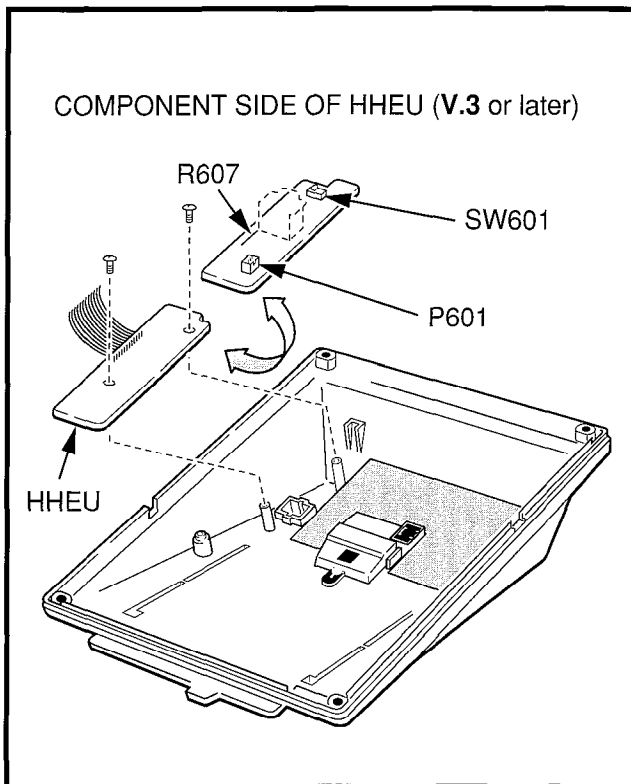

FIGURE 7-10—HHEU INSTALLATION FOR DIGITAL TELEPHONE
- 3) Set the **SW601** switch on the HHEU to **HEADSET** for the headset/loud bell application (Figure 7-10).
- 4A) Connect the HESC-65A cable to P601 of the HHEU if the loud ringing bell option is required (see Figure 7-10).
- 4B) If the headset receiver is not to receive OCA, cut one side of the **R607** resistor on the HHEU (Figure 7-10) and then remove the resistor to eliminate electrical contact.
- 5) Position the HHEU PCB on the standoffs inside the base (Figure 7-10), and secure with the two screws provided.